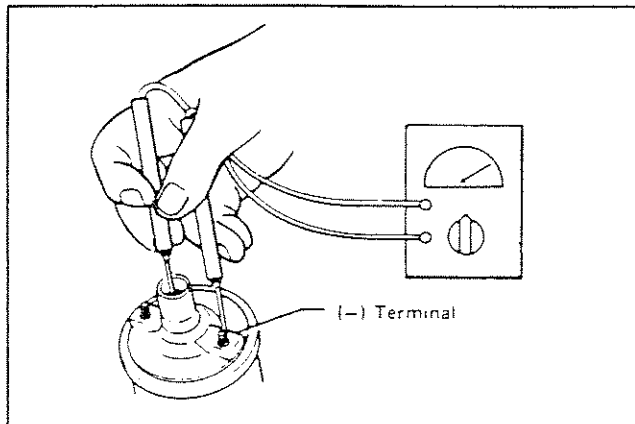

Figure 11. Testing Secondary Coil Resistance
2. To test secondary coil resistance, connect the meter test probes as shown in Figure 11.